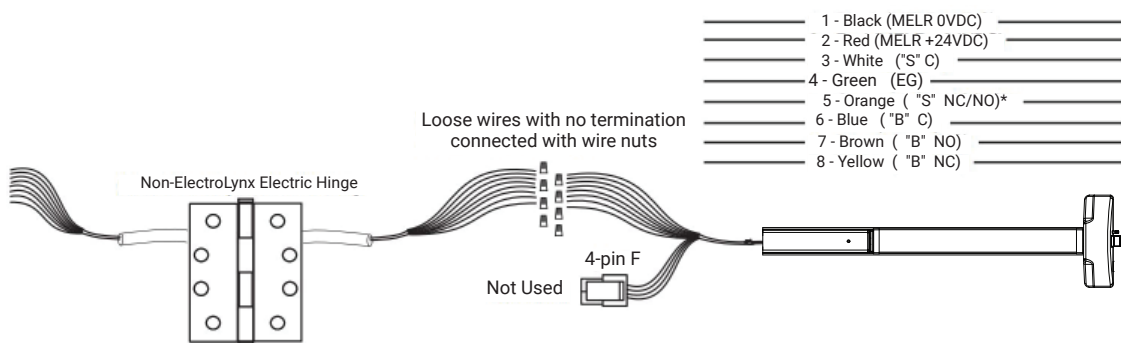

Figure 9 - Non-ElectroLynx Power Mode Wiring MELR Wires with ElectroLynx Connector Removed
3. Plug the 8-pin ElectroLynx connector from the pushbar into the 3" ElectroLynx harness or splice into non-ElectroLynx harness. See Figure 9.
Earth Ground is required for Electrostatic Discharge (ESD) protection unless the metal door and frame are already earth grounded; otherwise, earth ground wiring is required at pin 4. See Figure 9.